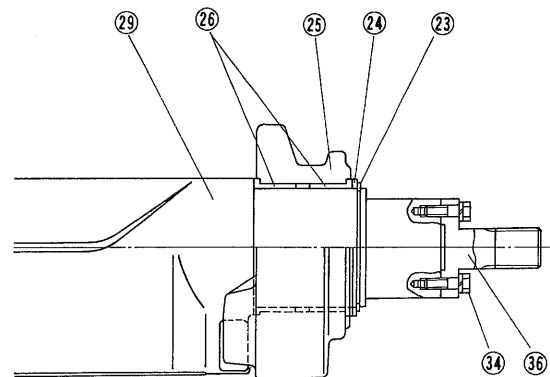

Fig. 86
- (i) Take off snap ring (23) and remove collar (24), counter weight (25) from eccentric shaft (29).
- (ii) Take off bushings (26) from counter weight (25). (Fig. 86)